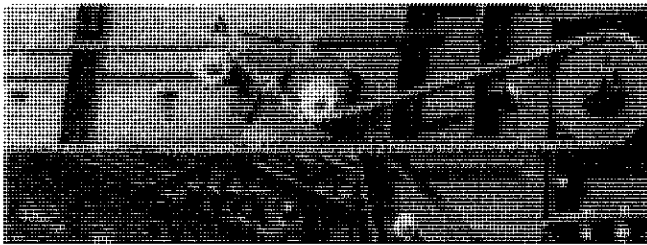

FIGURE 32 - SPRING LOADED IDLER
2. Remove truck elevator drive chain from inner sprocket by removing the spring from the spring loaded idler (A) (see figure 32). Hang chains over idlers.